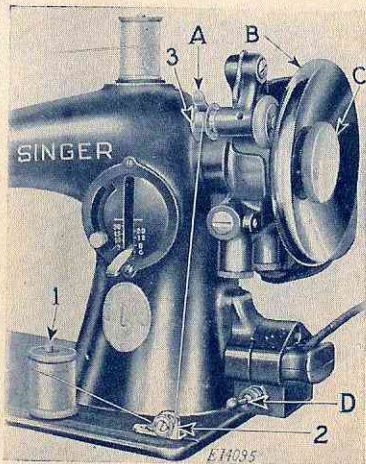

FIG. 5. WINDING THE BOBBIN
Push the terminal plug at one end of the electric cord as far as it will go on the three-pin terminal block at the right of the machine as shown in Fig. 5. Attach the plug at the other end of the cord to the nearest electric outlet and the machine is ready for operation.
To turn the SINGERLIGHT "on" or "off," a switch is conveniently located at the front of the three-pin terminal block, as shown at D, Fig. 5.
It is necessary to understand the stop motion (C, Fig. 5) by which the balance wheel (B, Fig. 5) can be released when required, thus permitting the winding of bobbins without running the stitching mechanism.
ing the small pin in the shoulder enter the hole in the side of the bobbin. Put the spool of thread on the spool pin (1). Draw the thread under and between the tension discs (2) on the bed of the machine, then pass the thread up and through the hole (3) in the left side of the bobbin, from the inside. Press down on the bobbin and the bobbin winder latch (A, Fig. 5) will drop down and hold the bobbin winder pulley against the hub of the balance wheel. Then press the knee lever or the treadle the same as for sewing.
If the thread does not wind evenly on the bobbin, loosen the screw which holds the tension bracket (2, Fig. 5) in position on the bed of the machine and slide the tension bracket to the right or left, as may be required, then tighten the screw.